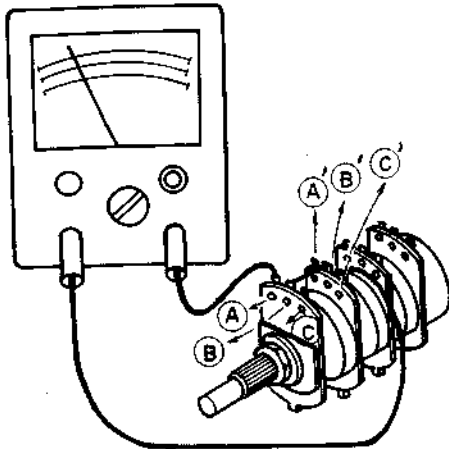

Fig. 2-9-1 BALANCE Control Setting
- With a piece of hook-up wire, solder between center terminals Ⓑ and Ⓑ', measure a resistance between terminals Ⓐ and Ⓒ' by an ohmmeter. See Fig. 2-9-1 on next page.